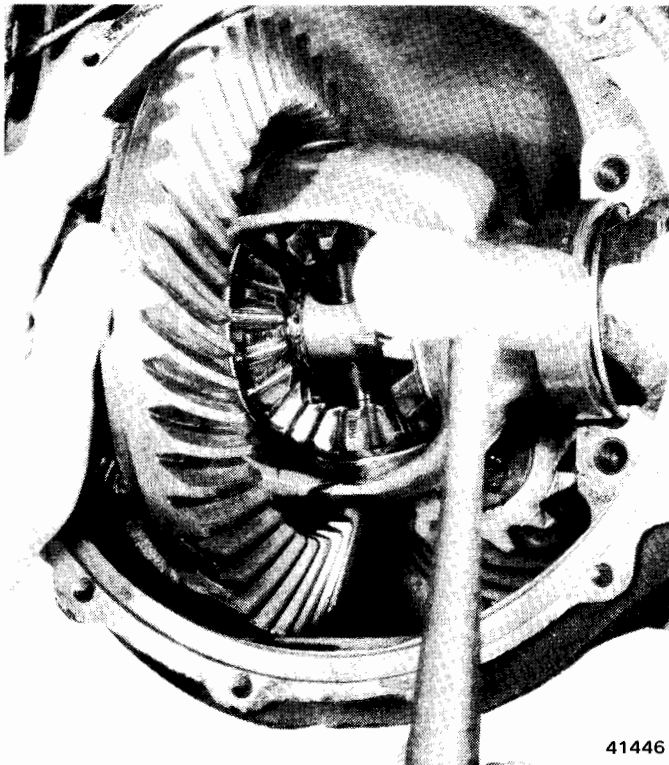

Fig. 10-48 Differential Installation
(1) Install differential bearing shims in axle housing bearing bores.
(2) Assemble differential bearing cups on differential bearings. Bearings should completely cover differential bearing rollers.
(3) Position differential so that bearings just start in axle housing bearing bores (fig. 10-48).